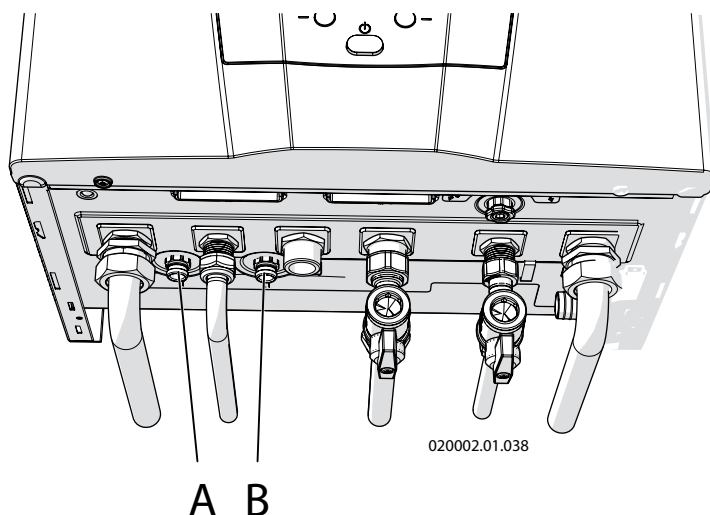

Figure 8.16 - Central heating circuit drain cocks
- 5.- connect a flexible hose to the drain cocks "A" and "B" (see figure 8.16) and convey it onto the drain of a washbasin or similar;
- 8.- once all of the water has been evacuated, close all of the heating element vent valves and the drain cocks "A" and "B" in figure 8.16.